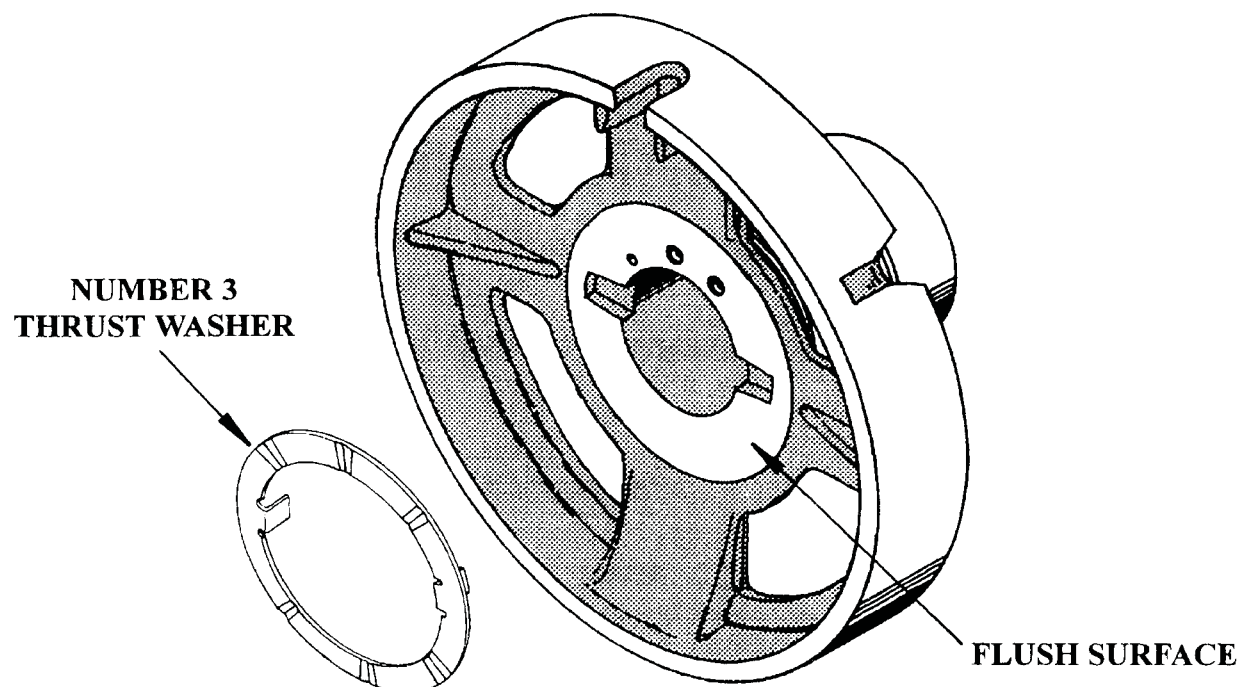
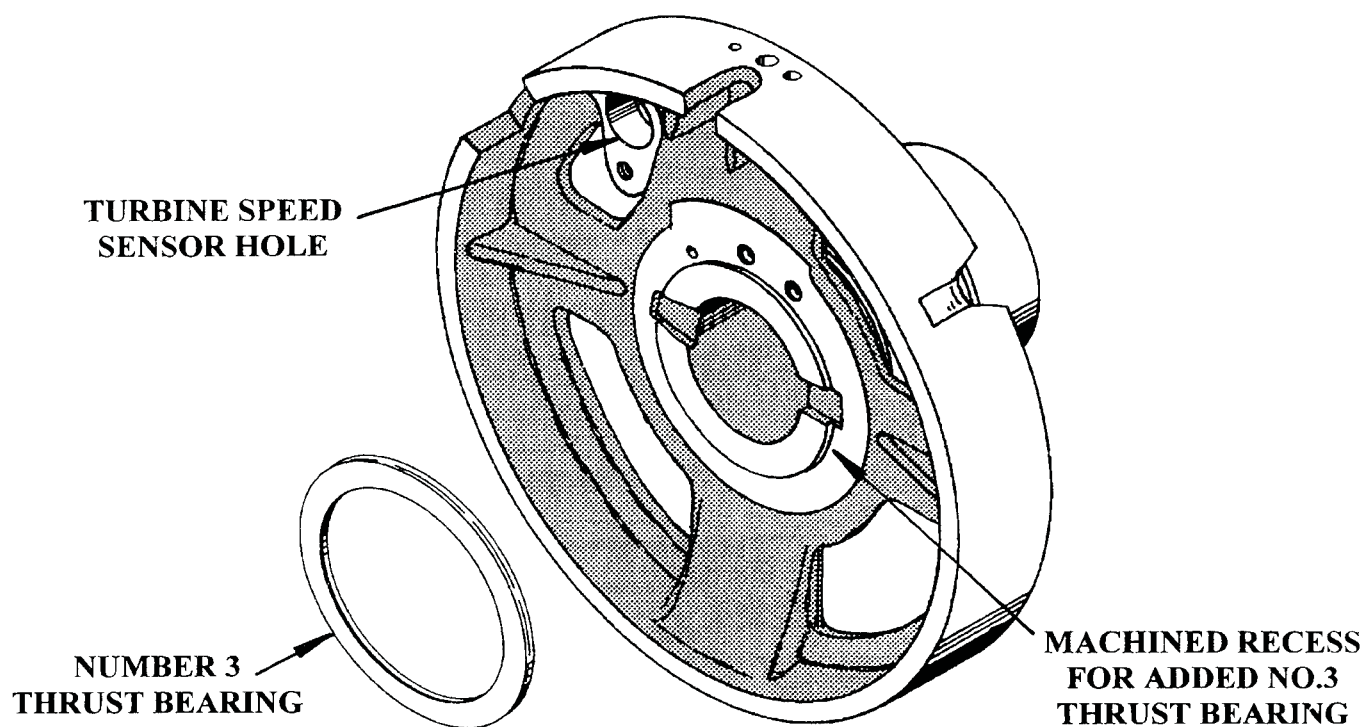

Figure 35
Figure 36
(4) **CENTER SUPPORT** - When the "Snap Shell" was introduced in 1993, the number 3 thrust washer was eliminated (See Figure 35), & number 3 thrust bearing was added (See Figure 36). The addition of the number 3 thrust bearing required machining the surface deeper to accommodate the bearings added thickness (See Figure 36).
1. Machined recess for added number 3 thrust bearing (See Figure 36).
3. Machined hole for turbine speed sensor getting ready for 4R55E (See Figures 36 and 38).
- (5) The new design level center support **CANNOT** be used in **ANY** previous models, unless updated with **ALL** of the parts listed above (See Figures 36 and 38).
- (6) The previous design center support **CANNOT** be used forward into **ANY** model that is using the "Snap Shell" (See Figure 35).